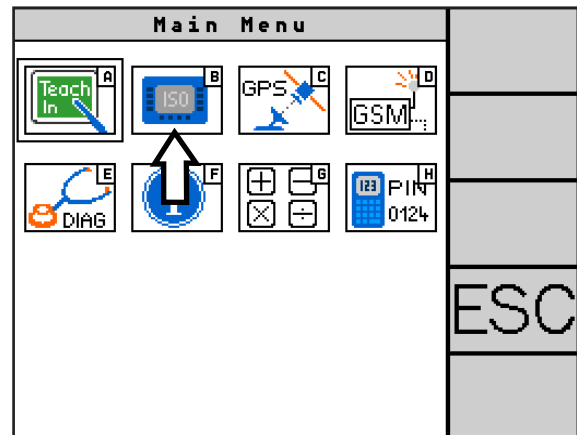

Fig. 89: Call up terminal configuration
In the main menu, select the symbol with the ISO terminal (B) (see Fig. 89) to call up the terminal configuration.